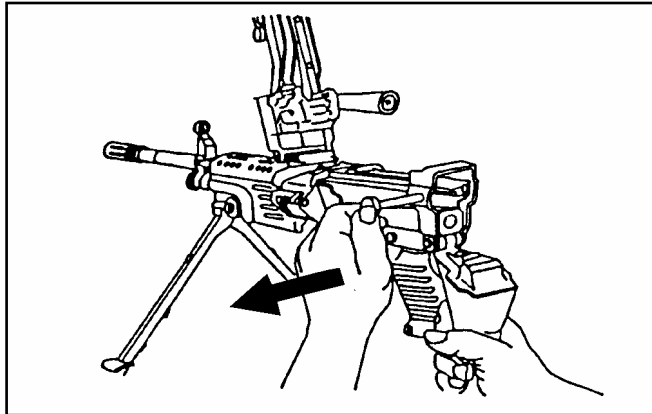

Figure 071-312-4025-1. Rear opening of the receiver
(1) Raise the cover assembly. Pull the upper retaining pin at the rear of the receiver to the left. Let the butt pivot downward so the rear opening of the receiver is clear (figure 071-312-4025-1).